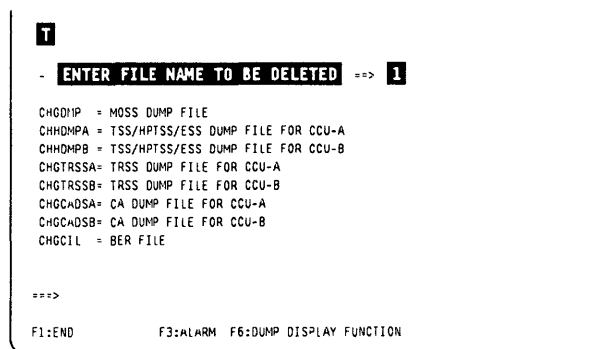

Figure 6-19. Dump Delete Selection Screen
- Press **F6**, to go to the **dump delete selection** screen (see Figure 6-19 on page 6-9).